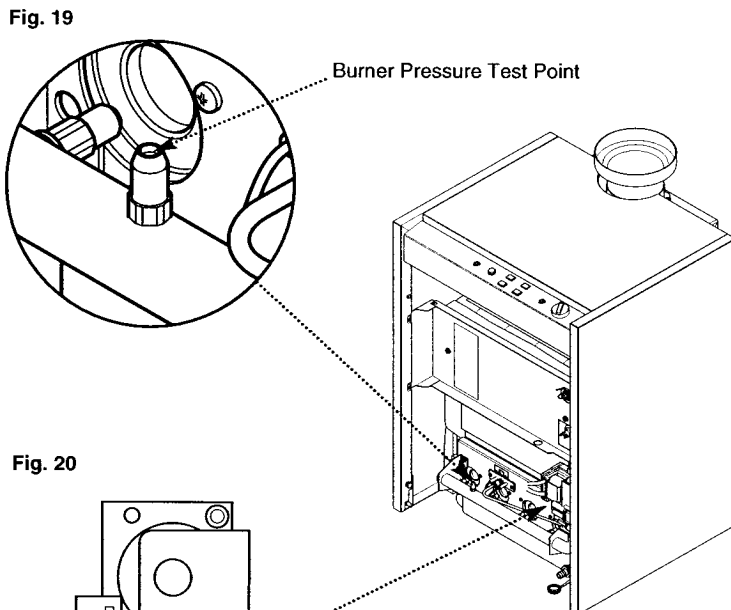

Fig. 19
1. Slacken the pressure test point sealing screw and connect a pressure gauge (Fig. 19).
5. Turn the boiler off and reassemble in reverse order. Tighten the pressure test point sealing screw (Fig. 19).